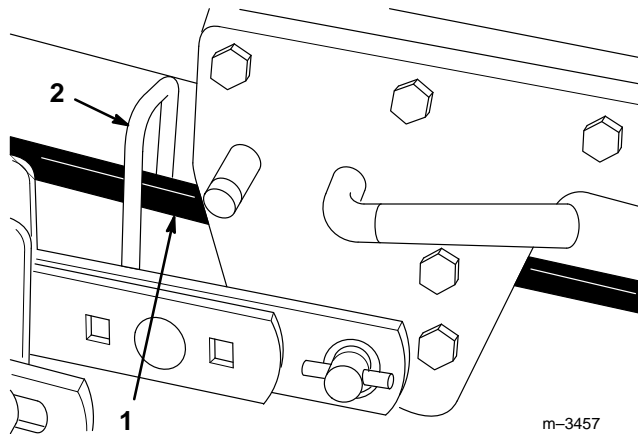

Figure 9
1. Hang the belt over the mower, then thread it forward through the belt guide (Fig. 9) on the mower.